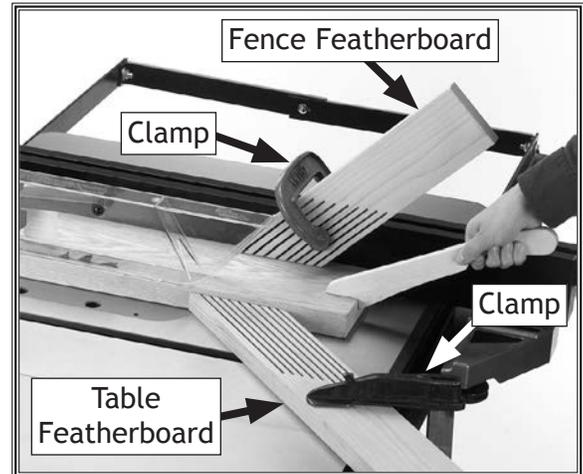

Figure 86. Example of featherboards secured with clamps.
3. Place a featherboard on table away from blade so all fingers point forward and contact workpiece (see **Figure 86**).